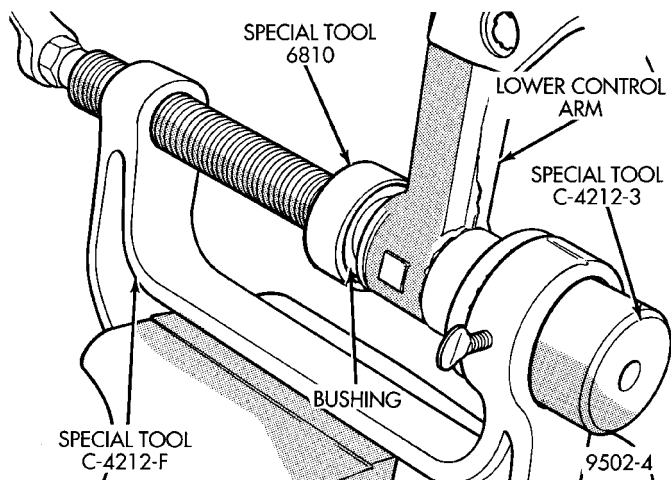

Fig. 75 Front Bushing Installation
(3) Install lower control arm as shown in (Fig. 75) on Special Tools assembled for installing front isolator bushing into lower control arm. Be sure Special Tool C-4212-F is square on lower control arm and Special Tool 6810 is positioned correctly on isolator bushing.